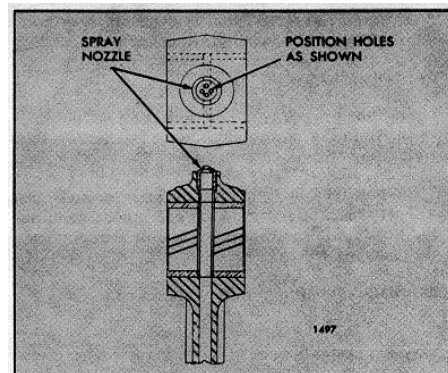

Fig. 6 - Position of Spray Nozzle Holes
6. Start the new spray nozzle, with the holes positioned as shown in Fig. 6, straight into the counterbore in the connecting rod..